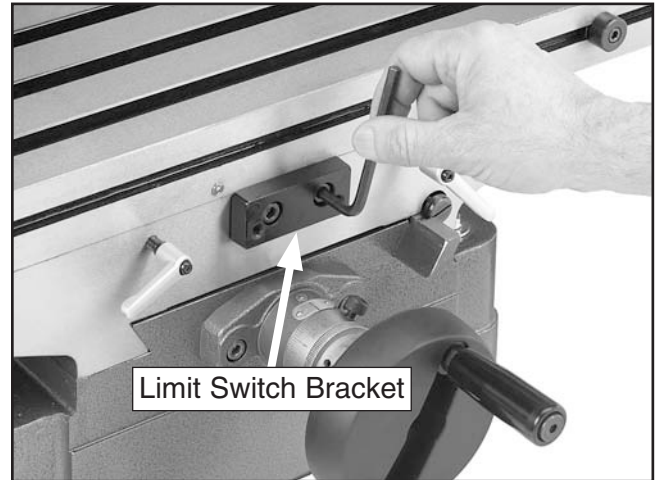

Figure 16. Limit switch bracket.
9. Secure the limit switch bracket to the front of the mill/drill with the mounting bolts saved in **Step 8** (**Figure 16**).